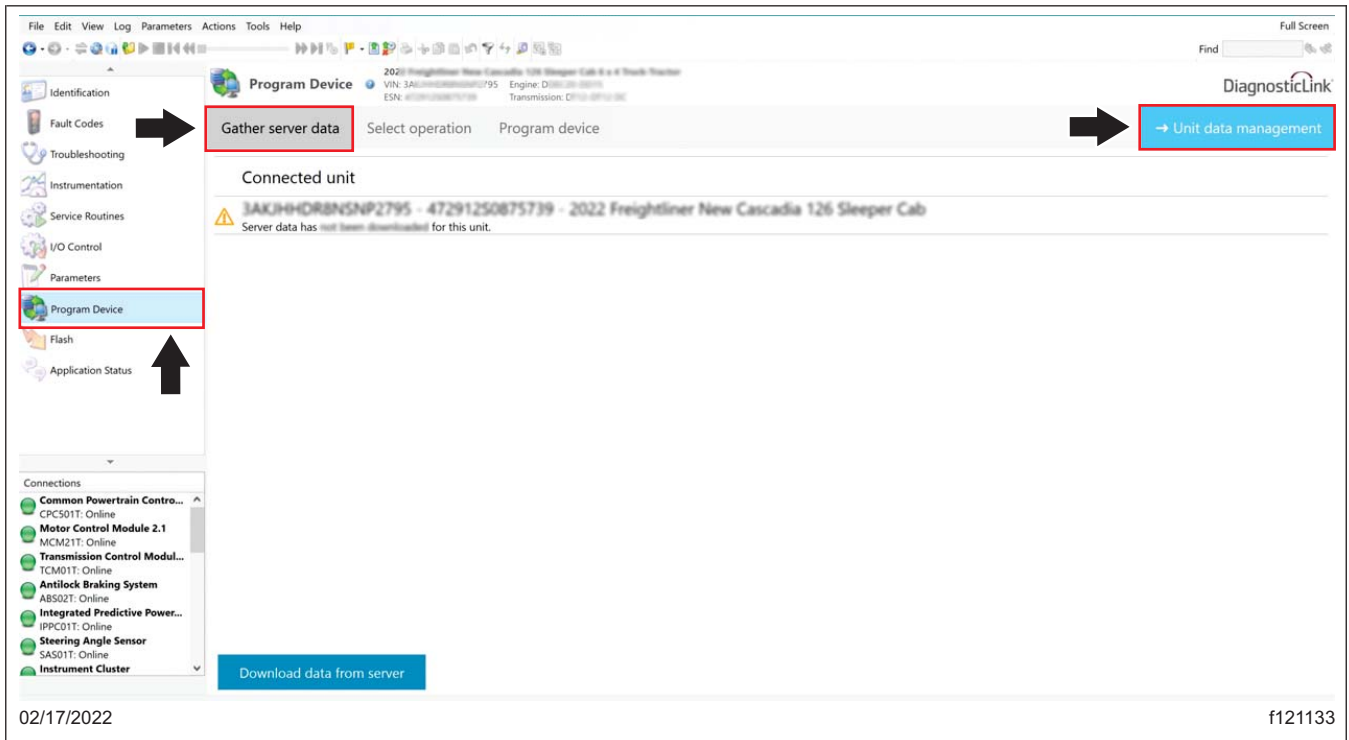

Fig. 3, Selecting Unit Data Management
- 6.2 Go to the 'Program Device' tab, then select 'Gather server data.' Verify and select the vehicle identification number (VIN), then select 'Unit data management.' See Fig. 3.
- 13.1 Select 'Program Device' on the left-hand side of the window. See Fig. 3.